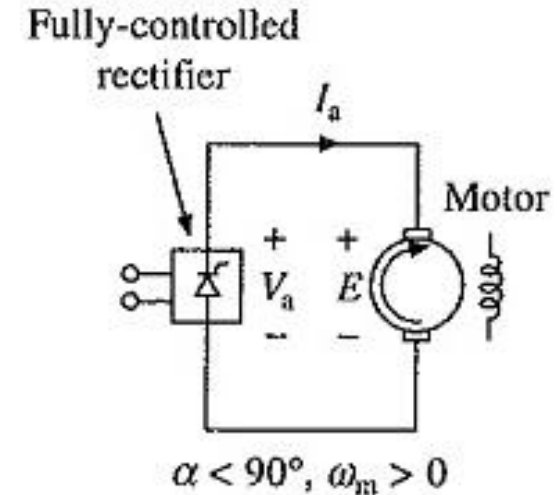

Fig. 7. Regenerative braking mode.
- Polarities of E , I_a and V_a for quadrant IV operation are shown in Fig. 7.